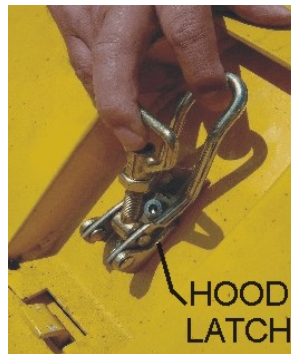

Figure 1. Hood Latch
1. Grasp and unlock hood Latch (Figure 1), lift engine hood and pull back.